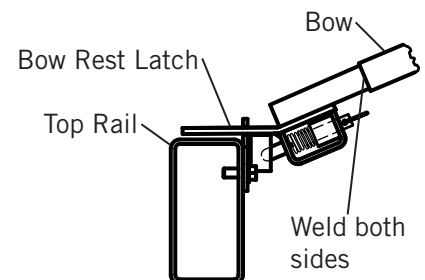

**Figure 11**
- 4) See Figure 11. Make sure the bow rest slide smoothly into bow stop. Adjust bow by lifting up or pushing down on the bow.